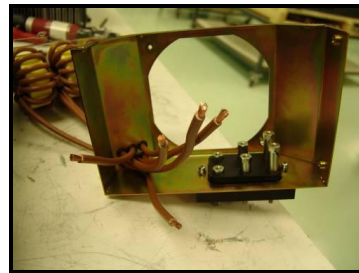

Figure 7.2.21
- 4) Once disconnected the cables, cut the terminals in order to get the cables out the structure (see figure 7.2.21).
- 1) Put the cables of the new dV/dt choke through the holes of the fan structure (see figure 7.2.21).